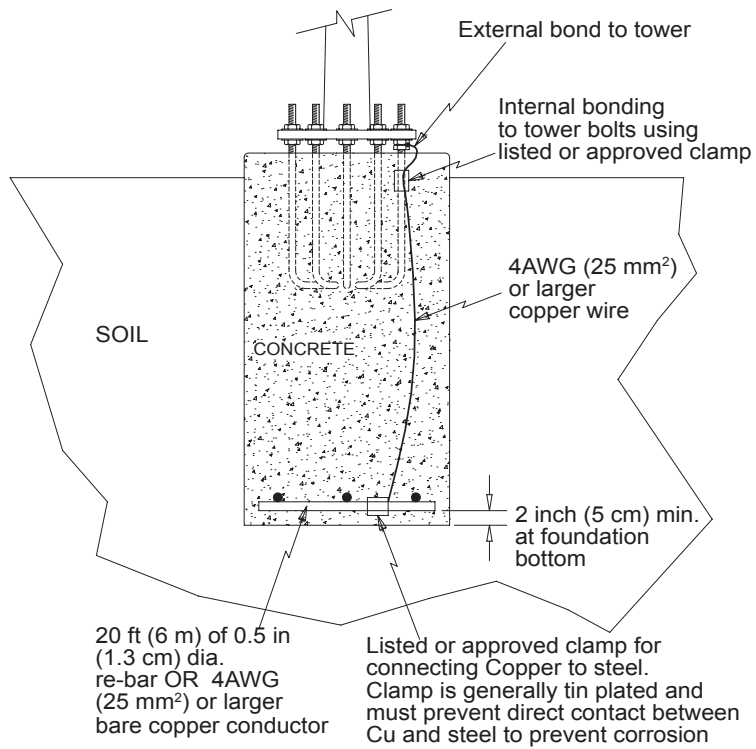

Fig. 4 Concrete encased electrode.
- a) The Electrode must be at least 6.0 m of one or more (electrically connected by steel tie wires) bare or zinc galvanized steel or other electrically conductive coated steel reinforcing bars or rods of not less than 13 mm in diameter, located near the bottom of the concrete foundation that is in direct contact with the earth. The electrode must be encased by at least 50 mm of concrete as shown in figure 4. The reinforcing bars, if bare, must not be rusted at the time of installation to prevent bad electrical connection between bars and with the grounding electrode conductor. The reinforcing bars must be electrically connected to the anchor bolts either using the steel tie wires or using the grounding electrode conductor. The grounding electrode conductor must not be smaller than 4AWG copper and must be electrically bonded to the bottom reinforcing bars using listed/approved means that is suitable for concrete encasement. Sufficient extra length of the conductor must be available to bring it out of the foundation top and at least 46cm above the foundation top. It should then be bonded to the tower as described in section 2-1-6 of this document.